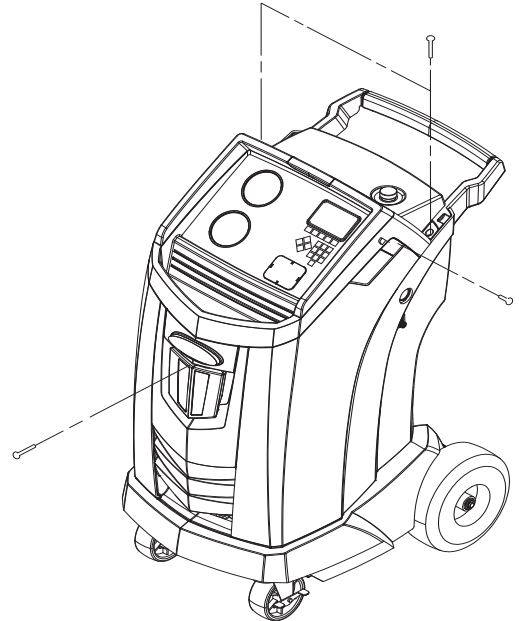

Figure 8
Turn off the machine. Remove the oil bottle. Remove the four screws holding the shroud. See Figure 8.
2. Remove the four screws holding the shroud. See Figure 8.